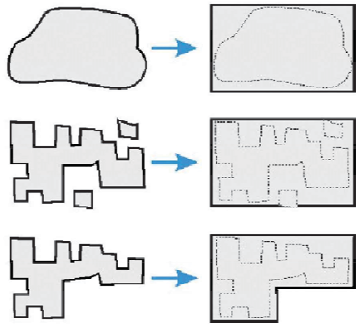

Fig. 6.1: Areas of deterioration and recommended removal configurations
2. Repair configurations will be simple shapes as shown in Figure 6.1.